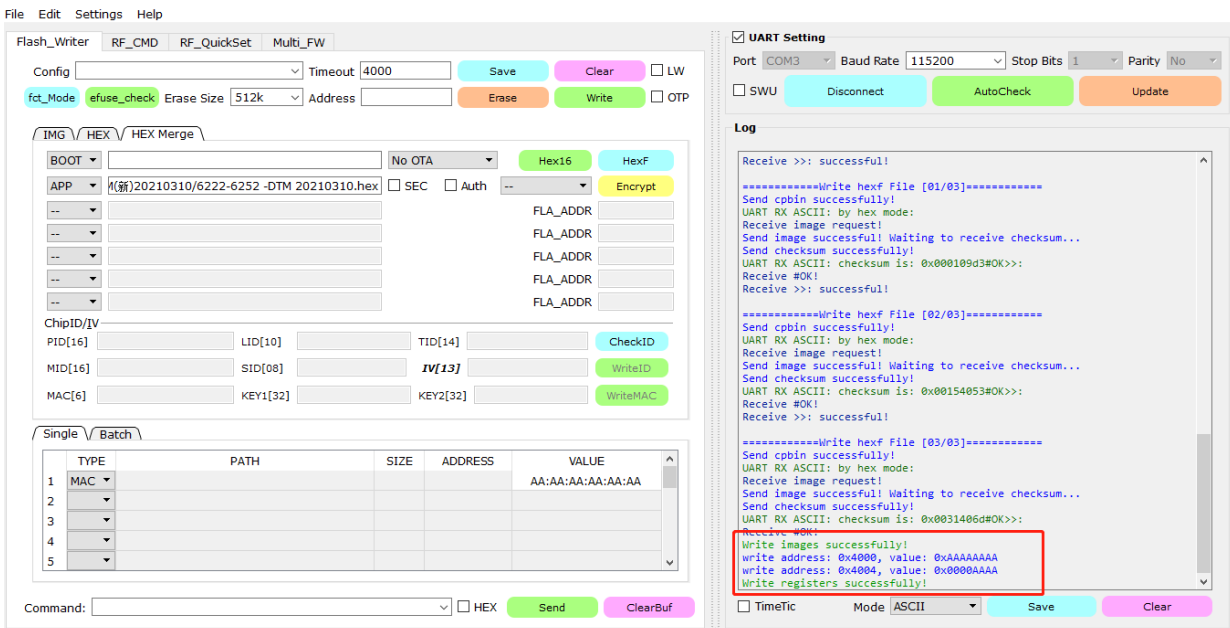

Figure 4
1.4. Click Erase, wait until the right interface displays green Erase successfully! Click the Write button, and wait until the right interface displays green Write registers successfully! Software programming is complete, as shown in Figure 4.
2.2.2. Connect the DUT to the computer with UART, pull down the TM (ignore this step for models without TM pins), and reset the DUT, the log as shown in Figure 4 will be returned, which means that the DTM fixed frequency test mode is entered, and the RF port is connected to the ROHDE&SCHWARZ FSQ of the instrument, select the Tx\_Single\_Tone option of the software PhyPlusKit Mode, other options are default values, transmit a single tone signal, reset the DUT, and click Start
- 2.3.2. Connect the DUT to the computer via UART, and pull the TM low (for models without TM pins, ignore this step), and reset the DUT, it will return to the log as shown in Figure 4 below, which means that the DTM fixed frequency test mode is entered, and the RF port is connected to the ROHDE&SCHWARZ FSQ of the instrument;
- 2.4.2. Connect the DUT to the computer with UART, pull down the TM (for models without TM pins, ignore this step), and reset the DUT, the log as shown in Figure 4 will be returned, which means that the DTM fixed frequency test mode is entered, and the RF port is connected to the instrument ROHDE&SCHWARZ SMJ 100A connect;
- 2.5.2. Connect the DUT to the computer with UART, pull down the TM (for models without TM pins, ignore this step), and reset the DUT, the log as shown in Figure 4 will be returned, which means that the DTM fixed frequency test mode is entered, and the RF port is connected to the instrument ROHDE&SCHWARZ SMJ 100A connect;